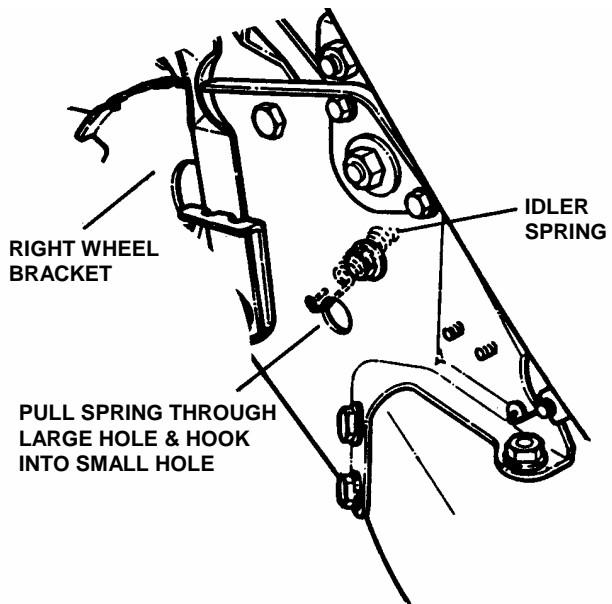

FIGURE 4.18
- Use a stiff wire, such as a coat hanger, with a hook fashioned on one end to pull the hooked end of the idler spring through the large hole in the right wheel bracket. See Figure 4.18.